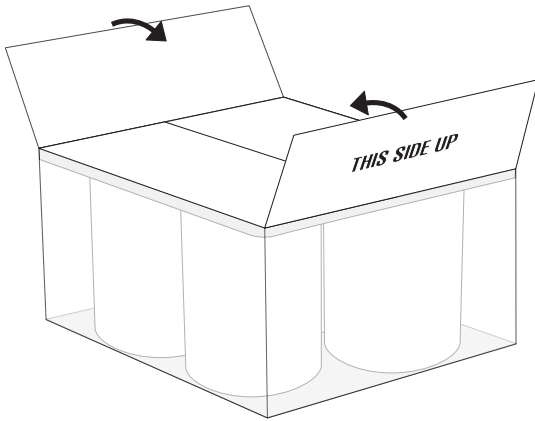

Figure 5
8. Fold flaps on top of carton so "THIS SIDE UP" is visible on the outside of the carton. Gap between outside flaps cannot exceed 0.25". (See Figure 5)